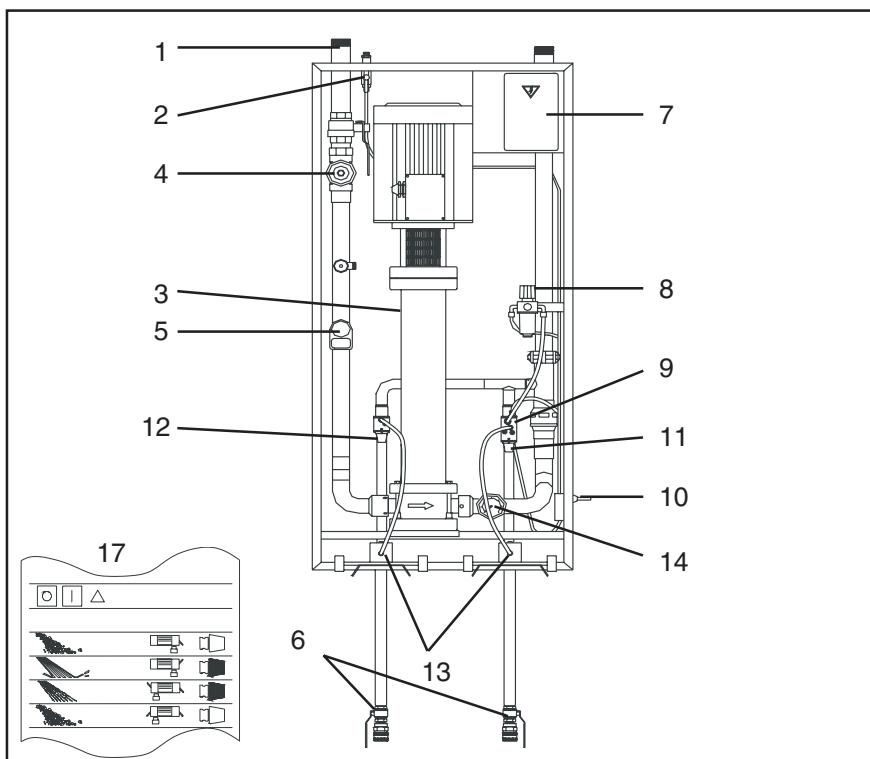

Fig. 5
**S4000 D, S4000 DU, S4100 D, S4100 DU,** (fig. 5, User Pack).